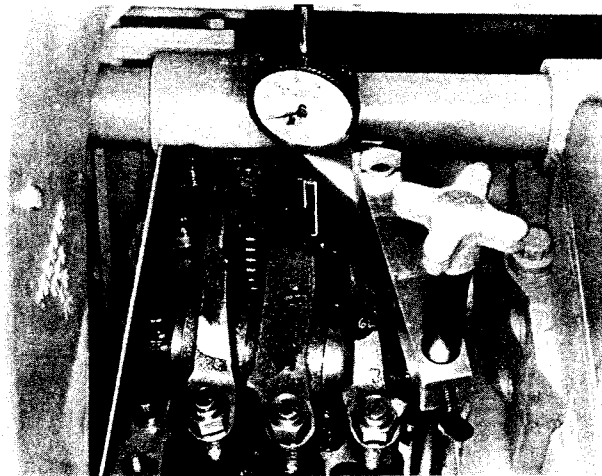

Fig. 2-62, (K21920). Dial indicator in place — extension in contact with plunger
**Note:** Any valve set position may be used as a starting point when adjusting the injectors, crossheads and valves. Determine which of the two (2) cylinder indicated have both valves closed (rocker levers free). This cylinder is in position for injector plunger travel, crosshead and valve adjustment.
2. Set up 3375007 Support Block on the rocker lever housing, of the cylinder selected, with the 3375005 dial indicator extension on the injector plunger top. Fig. 2-62.